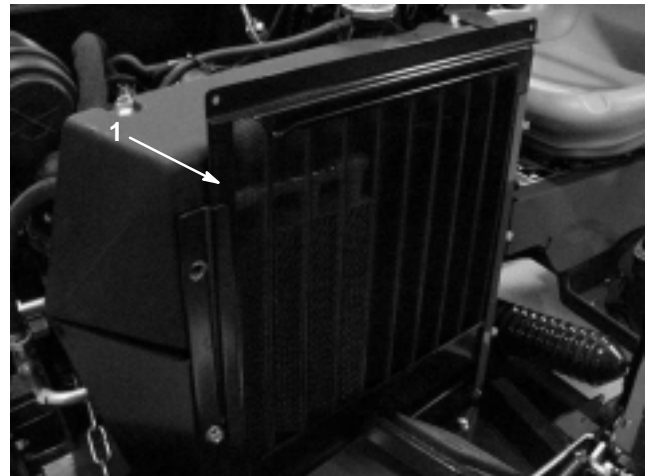
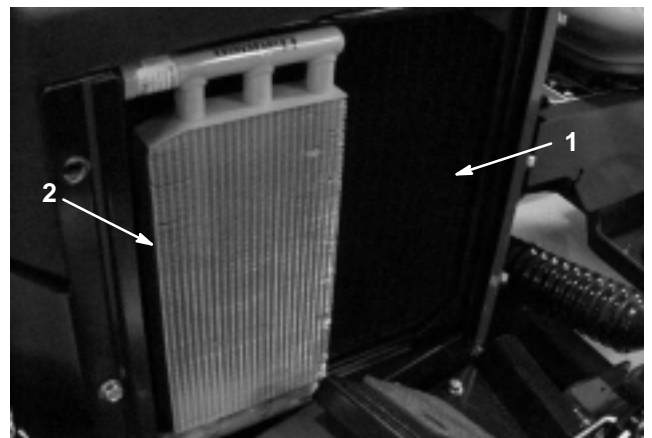

Figure 23
Figure 24
1. Clean debris off of the radiator screen (Fig. 23), radiator (Fig. 24) and oil cooler (Fig. 24) daily or hourly if conditions are extremely dusty and dirty; refer to Cleaning the Radiator and Screen, page 40.